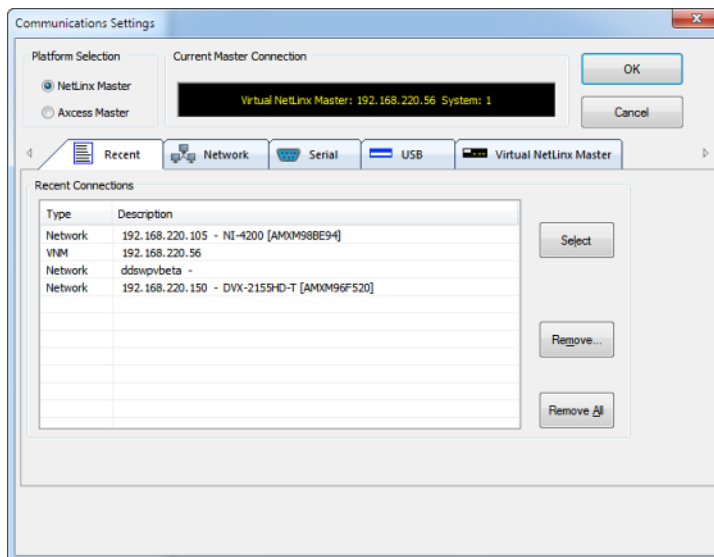

FIG. 4 Communication Settings dialog - Recent tab
3. Click the **Communications Settings** button to open the *Communications Settings* dialog (FIG. 4):